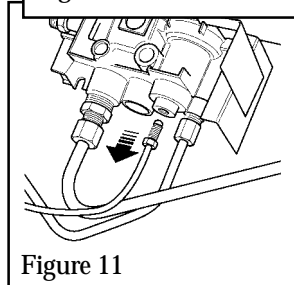

Figure 11
4. Disconnect the thermocouple from the valve block. See figure 11.